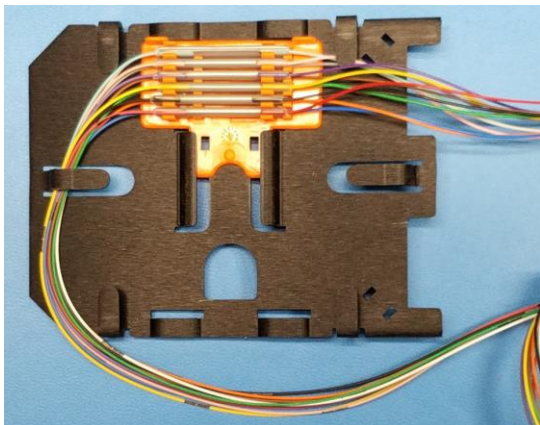
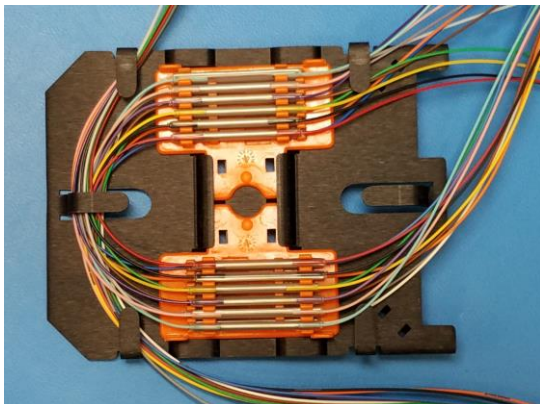

Figure 10
Figure 11
**4.5** Install the Splice Chip for fibers 13-24 first as shown in **Figure 10**. Route the fibers underneath the retention organizers near the fiber exit points of the Splice Chip. Install the chip for fibers 1-12 as shown in **Figure 11**.